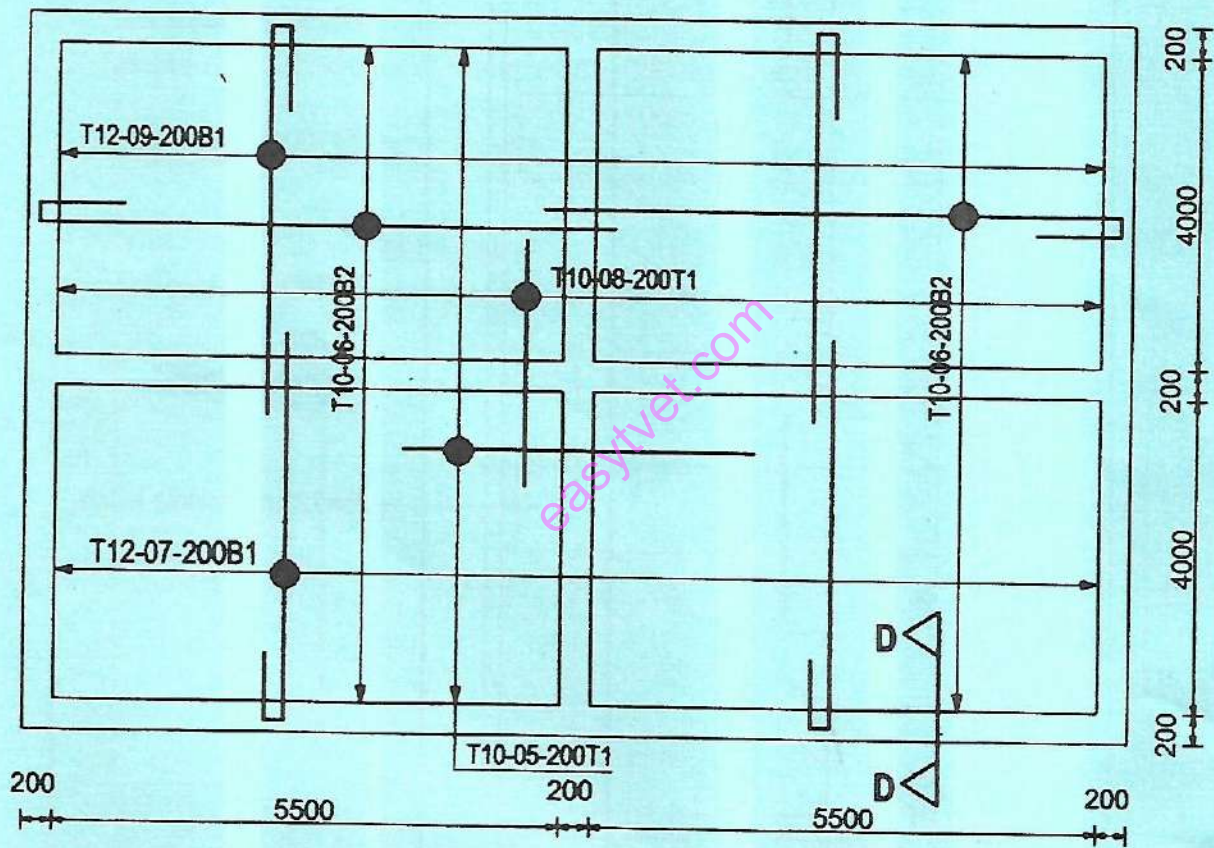

FIGURE 4
- (c) **Figure 4** shows the reinforced concrete detail for a suspended slab. To a scale of 1:5 draw section D-D using the data provided.